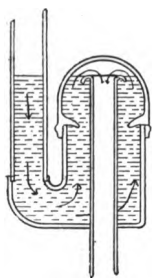

FIG. 342.—NON-SIPHON TRAP
**352. Non-Siphon Unvented Trap.** Many traps in which siphonic action cannot take place have been invented. The time is undoubtedly coming when such a trap will be generally introduced, and the large expense of venting in houses will be eliminated; for in spite of the law to the effect that traps must be vented, there is a possibility that the water seal will be broken through causes other than siphonage. Commonest of these is *evaporation*. The water in both arms of the water seal of a vented trap is exposed to the atmosphere, on one side *a* directly through the fixture, and on the other side *b* indirectly through the vent pipe. If the fixture is left unused for any great length of time, the water will evaporate to such an extent that there will be a free passage for gas through the trap. This will not happen so readily in a *non-siphon* unvented trap, as in this there is a chance for evaporation on only one side of the water seal. Figure 342 represents in section one of the good non-siphoning traps.